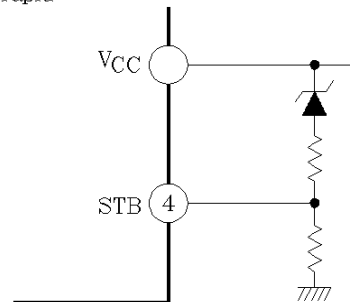

Fig.7
When the stand-by terminal was put to the low level after the ripple rapid discharging circuit was operated ($V_{CC} \neq 7V$) at the time when V_{CC} was turned OFF, a pop noise may be generated. Therefore, V_{CC} which makes the Stand-by terminal low shall be set at 8V or above so that (1) the Stand-by terminal is put at the low level and (2) the ripple rapid discharging circuit is turned ON when V_{CC} is turned OFF (in order of (1) and (2)). An example of application is shown in (Fig. 7).